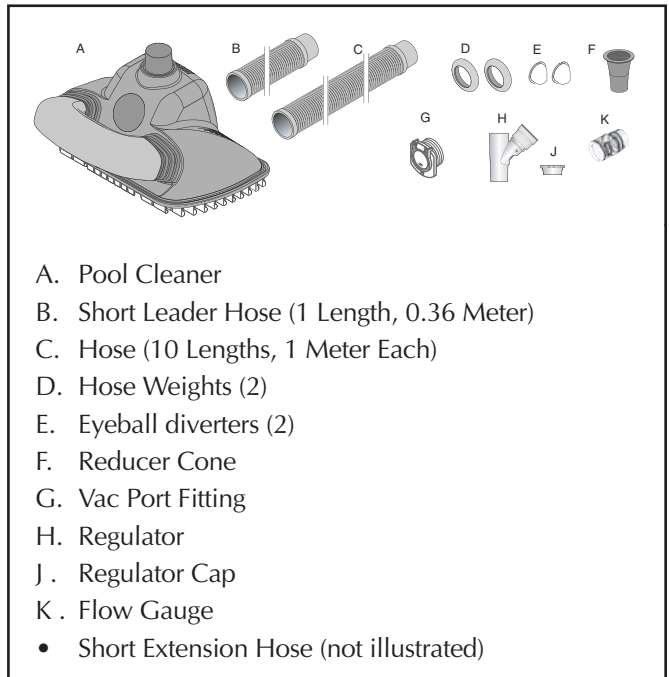

Figure 3
Step 3: Check parts (Figure 3)